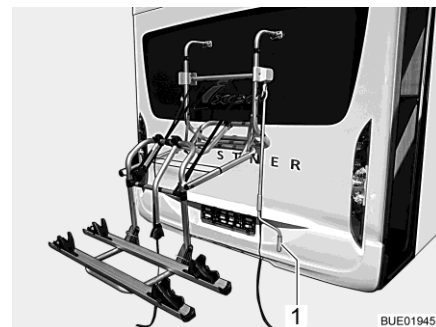

Fig. 5 Bike rack, lowered
- Attach the hand crank (Fig. 5,1) to the bike rack and lower the bike rack to gripping height.